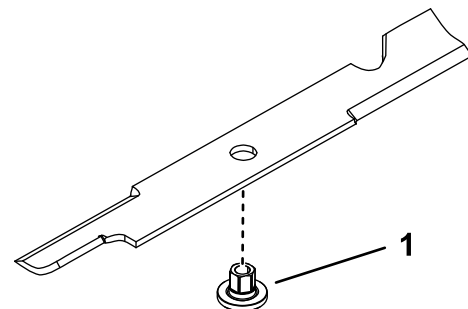

Figure 121
1. Install the bushing through the blade with the bushing flange on the bottom (grass) side of the blade (Figure 121).